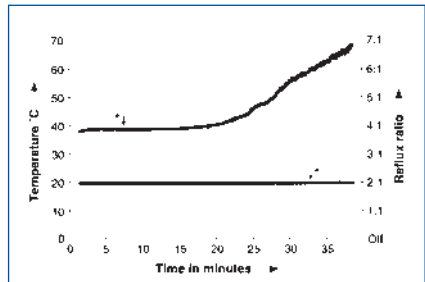

Fig. 10: Constant reflux ratio
- batch distillation at constant reflux ratio (Fig. 10 - page 6) or varying with time